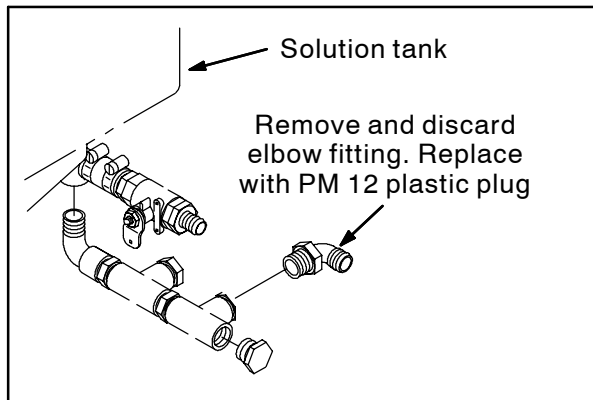

FIG. 2
26. Use isopropyl alcohol to clean the surfaces where labels will be installed onto the machine. Install the labels onto the machine. Refer to **Fig. 2 - Switch and Label Group** for label locations.
2. **ES Machines Only:** Remove the elbow fitting from the solution supply assembly. Install a PM12 plastic plug where elbow fitting was previously located. Discard the elbow fitting. Refer to Fig. 2.